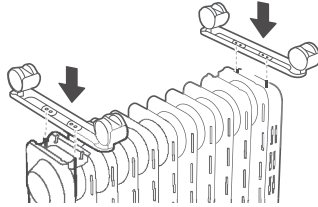

figure 1
- 2 As shown in figure 1, align the mounting hole of a set of caster assembly and install it on the screw of the caster pad plate at the end of the radiator fin, and The other caster assembly is aligned to the screws mounted at the bottom of the control box.